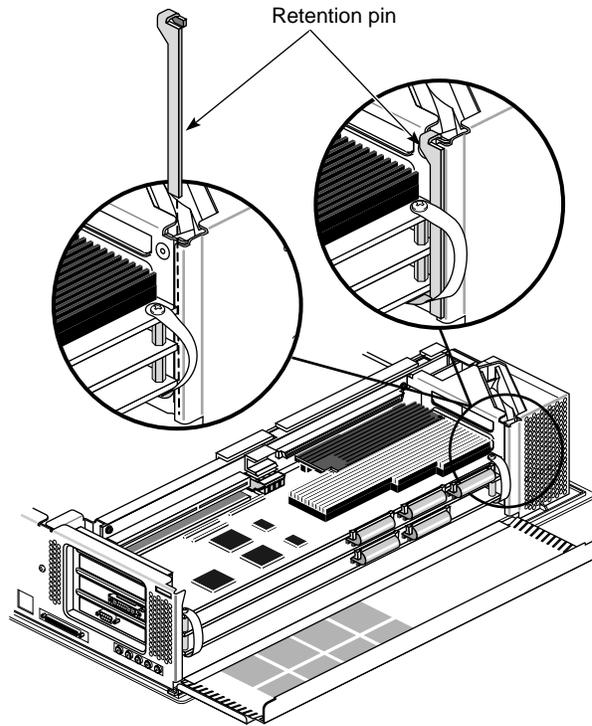

Figure 1-8 Removing the Retention Pin
2. Remove the retention pin that secures the graphics board set. See Figure 1-8.